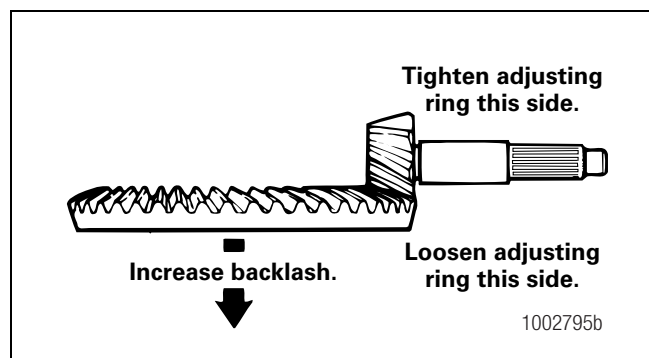

Figure 5.59
- **To increase the backlash:** Move the ring gear away from the drive pinion. Figure 5.59.